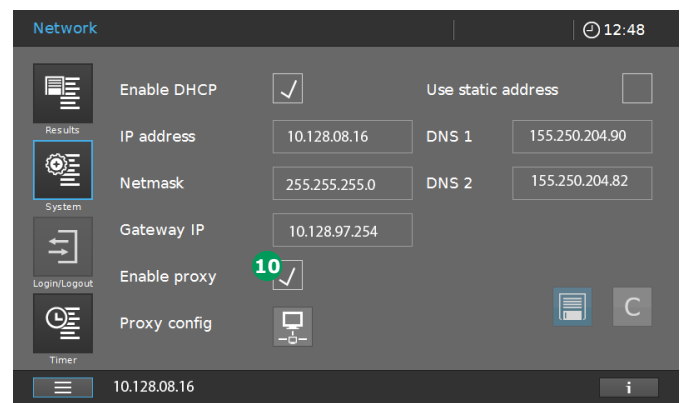
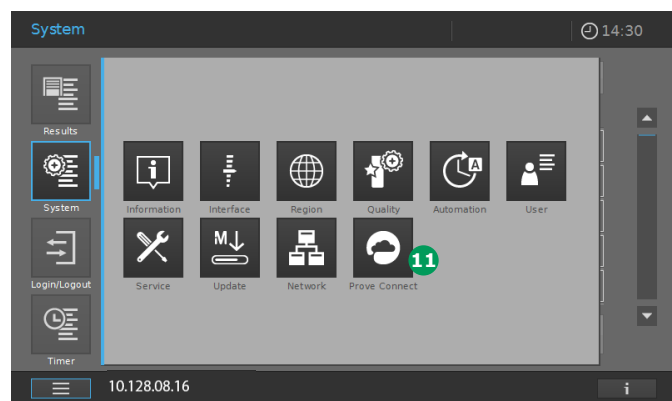

Figure 26 - After closing the previous window shown in Figure 25, the network window will appear again
Figure 27 - Screen of Prove's system menu
4. Enable proxy ⑩ in the Network menu (Figure 26) and click on the "save" button. You will be redirected to the system screen as shown in Figure 27.
5. Enable Prove Connect in the Prove System menu **11** (Figure 27).